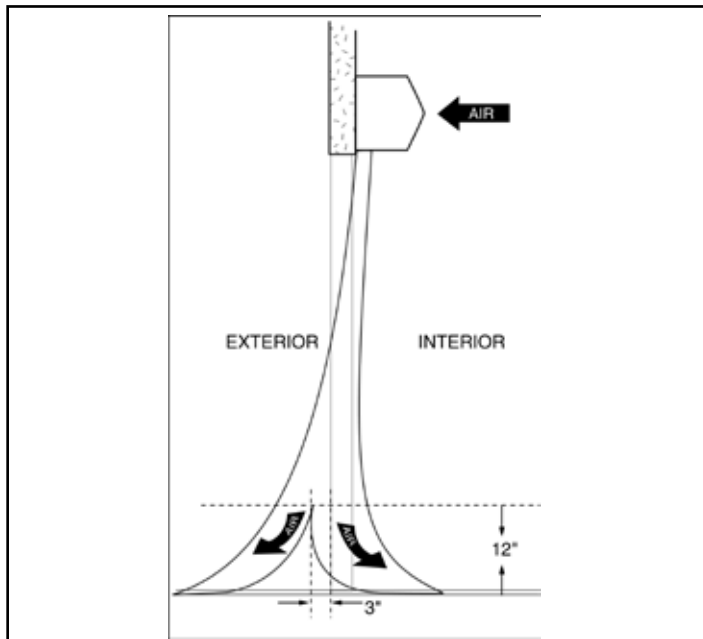

FIGURE 7 - Air Flow Adjustment
2. Find the air stream split location. Hold a handkerchief, by its corners, approximately 12" above the floor. Gently move the handkerchief back and forth in the doorway. Make sure the air is being directed to both the inside and the outside. The split location is indicated where the handkerchief is vertical with minimal or no fluttering. **See FIGURE 7.**